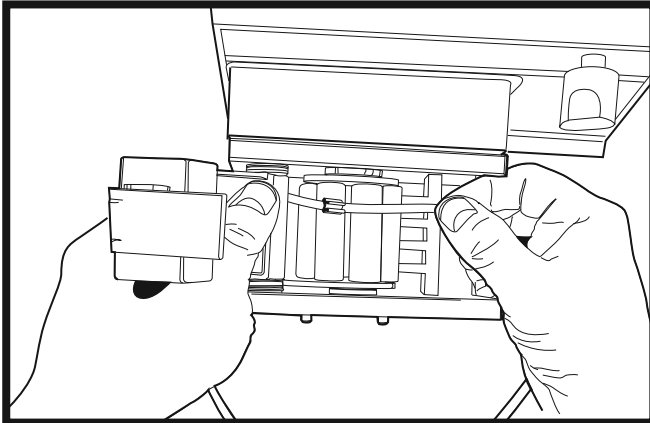

Figure 6. Insert one end of the tubing over rollers.
2. From the top of the Pump Head, insert one end of the tubing over rollers. While holding occlusion bed, open spring loaded safety guard enough so that tubing can be inserted between guard and slotted tubing retainer (Figure 6).